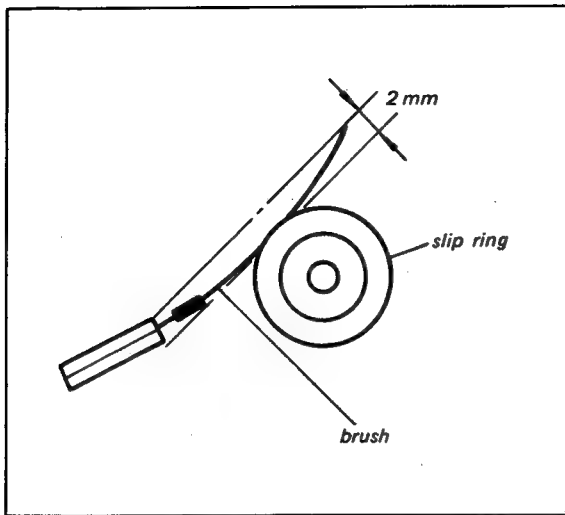

Fig. 7-9 Brush pressure
16. Tighten the brush pressure adjusting screws to obtain a 2 mm bend (approximately) as shown in Fig. 7-9.
17. Inspect the brush and slip-ring assembly to make sure that the brushes are centered in the slip rings. If the brushes are not centered, loosen the brush position adjusting screws in Fig. 7-9 and apply drops of head cleaning fluid onto the slip-rings. Set up the playback mode to rotate the video heads. Adjust the position of the brushes so that they are centered in the slip-rings and tighten the brush-position adjusting screws.